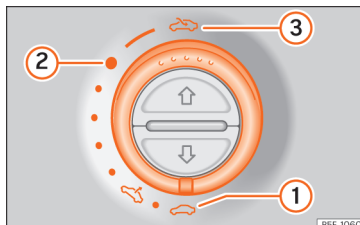

Fig. 110 On the interior roof lining: turn the switch to open and close.
- Open: turn the switch to position ③. **Fig. 110**
- Comfort position: turn the switch to position ②. **Fig. 110**
- Close: turn the switch to position ①. **Fig. 110**
The anti-trap function can reduce the risk of injury when closing the sunroof and the sun blind » Fig. 110. If the sunroof or sun blind encounter resistance or an obstacle when closing, they reopen immediately.
- The switch » Fig. 110 should be in the "closed" position ①.